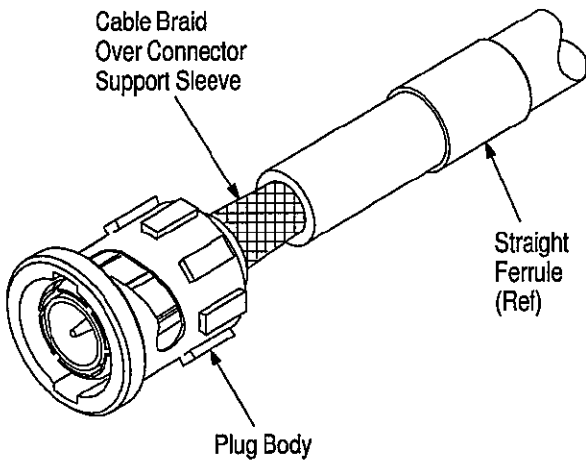

Figure 4
5. Insert center contact into plug body until it snaps into place. The cable braid must be positioned over the connector support sleeve. Pull back gently on the cable to ensure that the contact is held in place by the internal locking feature. See Figure 4.